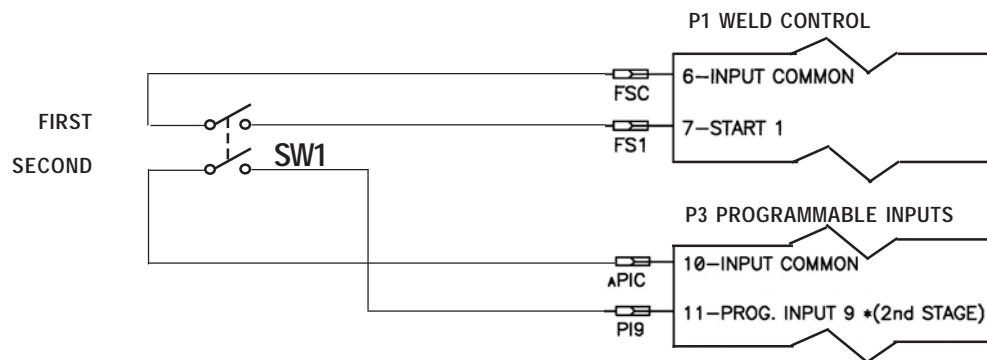

Figure 4-10. *Single two-stage foot switches connection diagram*
1. Connect as shown in Figure 4-10. Activating foot switch SW1 will initiate welding sequence in SCHEDULE 0.